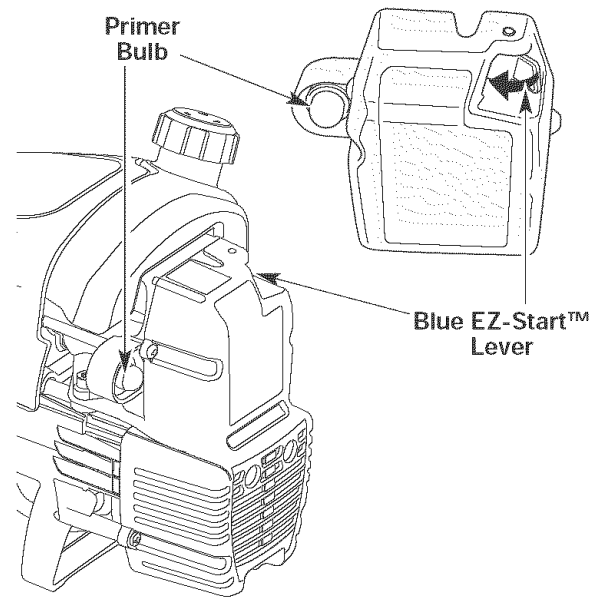

Fig. 7
2. Fully press and release the primer bulb 10 times, slowly. Some amount of **fuel should be visible in the primer bulb** and fuel lines (Fig. 7). If you can't see fuel in the bulb, press and release the bulb as many times as it takes before you can see fuel in it.
3. **Push the blue EZ-Start™ Lever towards the primer bulb** until it clicks and locks into place (Fig. 7).